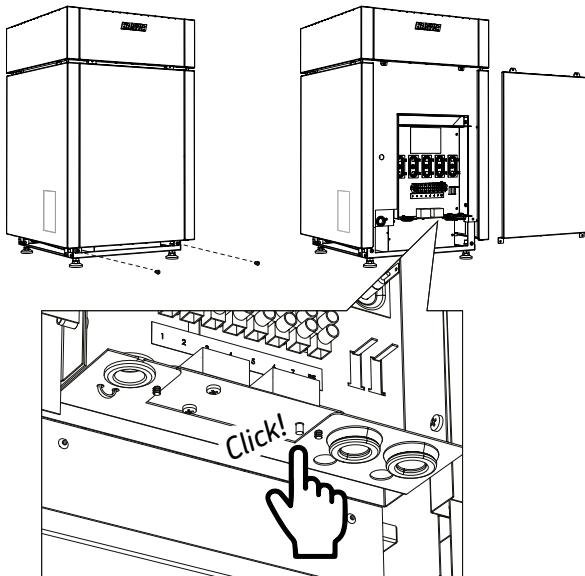

Figure 14. Steamer overheating protector reset
- Check that the overheat protector has not tripped. (Figure 14. Steamer overheat protector reset)
- Instructions for resetting the steamer overheating protector (Figure 14. Steamer overheating protector reset)